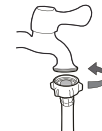

Figure 2
2. Respectively attach the water inlet hose to the water faucet. (As figure 2)